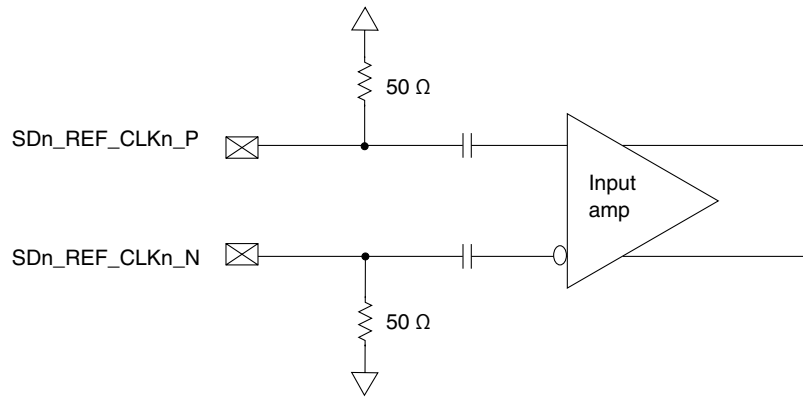

Figure 30. Receiver of SerDes reference clocks
- The $SDn_REF_CLKn_P$ and $SDn_REF_CLKn_N$ are internally AC-coupled differential inputs as shown in Figure 30. Each differential clock input ($SDn_REF_CLKn_P$ or $SDn_REF_CLKn_N$) has on-chip 50-Ω termination to $SGNDn$ followed by on-chip AC-coupling.
- For an external DC-coupled connection, as described in Figure 30, the maximum average current requirements set the requirement for average voltage (common mode voltage) as between 100 mV and 400 mV.